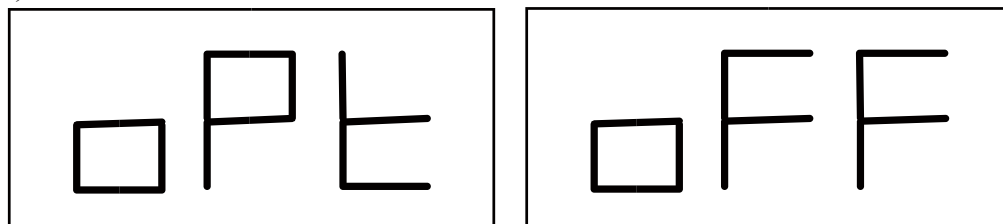
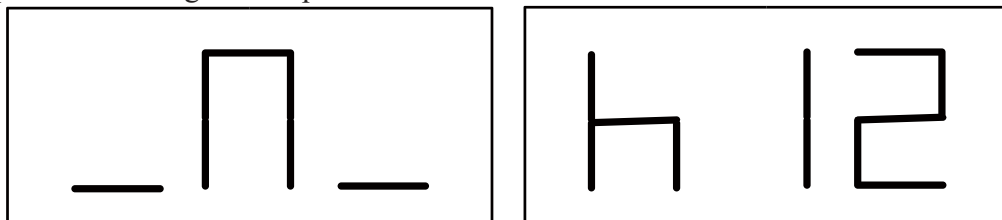

Fig. F5.2 Optimization Program not possible
Fig. F5.3 - "Bring the valve to the 12 o'clock position" message
2. If the wheel's static imbalance is less than 12 grams, the machine will display the message shown in Figure F5.2 for a second and then will automatically exit the optimization program. If the wheel's static imbalance is instead greater than or equal to 12 grams, the message shown in Figure F5.3 will be displayed;
7. At the end of the cycle, the message seen in figure F5.3 will be displayed. Two options are available: